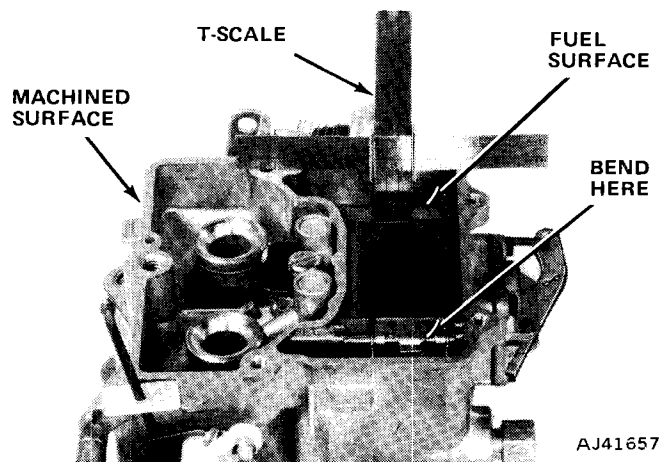

Fig. 4-52 Wet Float Level Adjustment
(1) With vehicle on a flat, level surface and engine at normal operating temperature, remove carburetor air cleaner assembly, and anchor screw.
(2) Remove air horn attaching screws and carburetor identification tag. Temporarily place air horn and gasket in position on carburetor main body and start engine. Let engine idle for a few minutes, then rotate air horn out of way and remove air horn gasket to provide access to the float assembly.
(3) While the engine is idling, use a T-scale to measure the vertical distance from the top machined surface of the carburetor main body to the level of the fuel in the fuel bowl (fig. 4-52). The measurement should be made at least 1/4 inch away from any vertical surface to assure an accurate reading, because the surface of the fuel is concave (higher at the edges than in the center). Care must be exercised to measure the fuel level at the point of contact with the float with the fuel (refer to Carburetor Service Specifications for the correct fuel level (wet) setting).